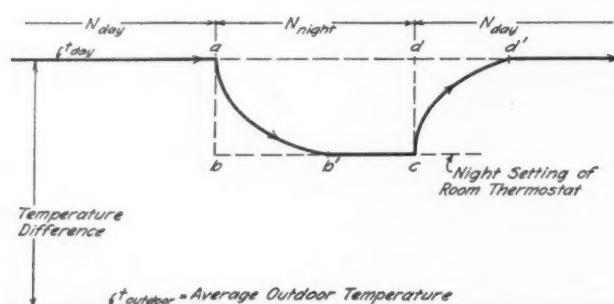

Fig. 7—Actual Changes in Indoor Temperature as Influenced by Delay or "Lag" in Cooling and Warming of Structure
**T**HE reduction of the house temperatures during the night period by means of manual or automatic adjustment of the setting of the room thermostat, tends to reduce the temperature difference maintained between indoors and outdoors and hence tends to reduce the fuel consumption required for a given outdoor weather condition. In the lower part of Fig. 7 is shown a line diagram which represents the temperature conditions maintained in the house with reduced setting of the room thermostat at night. The difference in heat loss from the structure when the house temperature is reduced at night as compared with the heat loss from the structure when the house is maintained at a constant temperature during the entire 24-hour period is represented diagrammatically in Fig. 7 by the area enclosed within  $ab'cd'a$ . It may be observed that the fuel savings effected by reducing the house temperatures at night will be dependent on the length of time during which the temperature is reduced, the temperature maintained during the night and the day, the rate of cooling of the house structure, the rate of rise of the